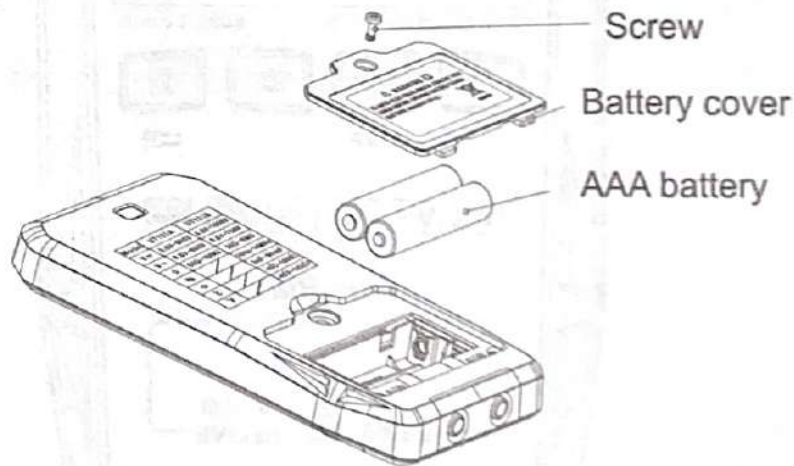

Figure 4
XI. Maintenance (Figure 4)
3. Battery replacement (Figure 4)